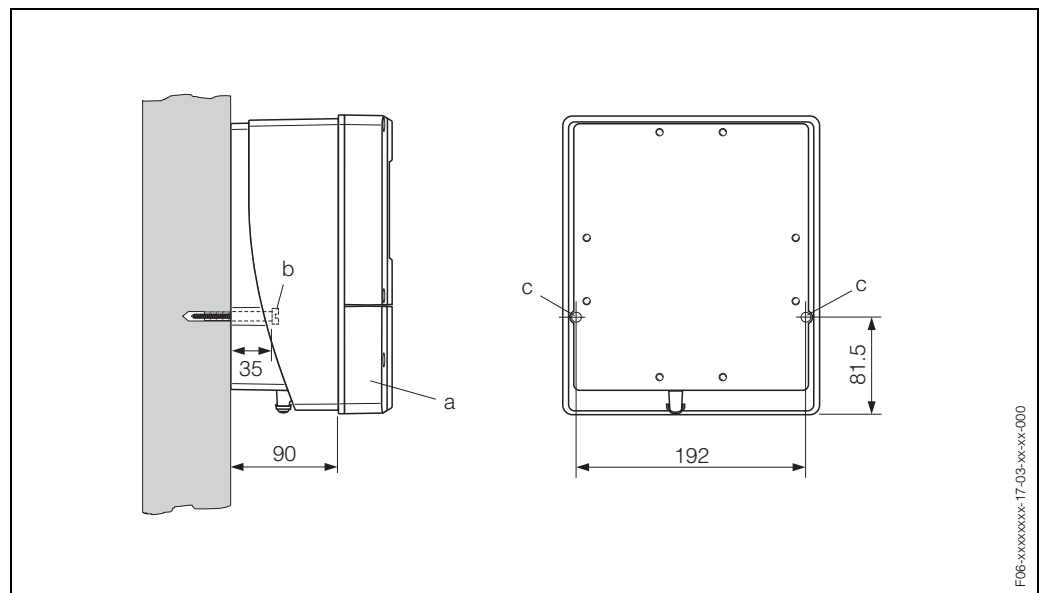

Fig. 24: Mounted directly on the wall
1. Drill the holes as illustrated in Fig. 24.